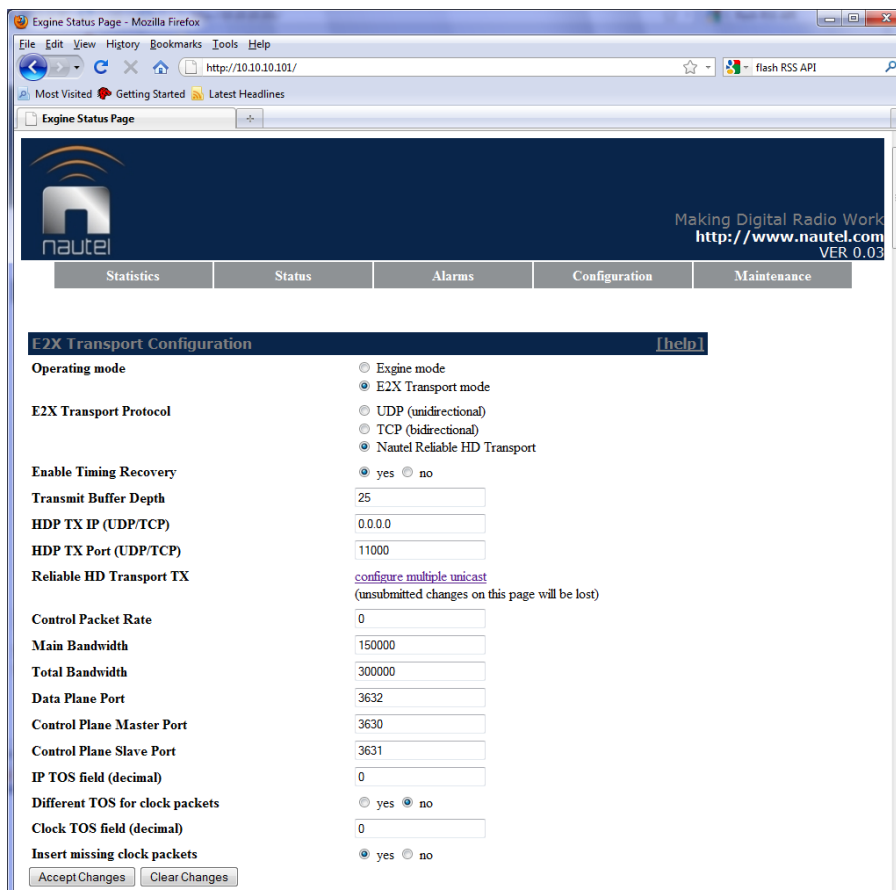

Figure 2-5: E2X Transport Configuration Screen
- (g) Return to the previous page and select **E2X Transport configuration**. Verify that the page in Figure 2-5 appears.
- Verify the other fields are set with the default values in Figure 2-5.